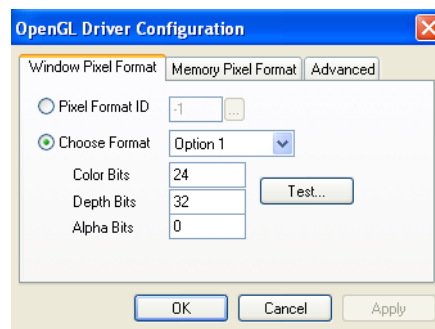

Figure 5-75: *OpenGL Driver Configuration* dialog box
4. In the OpenGL Driver Configuration dialog box (figure 5-75), select Pixel Format ID and enter this number.